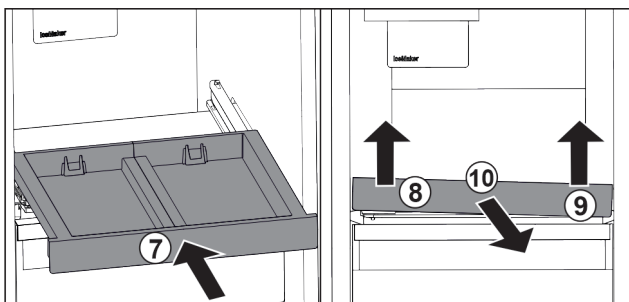

Fig. 97
- ▶ Slide in the pull-out board. Fig. 97 (7)
- ▶ Lift the pull-out board on the front left. Fig. 97 (8)
- ▶ Lift the pull-out board on the front right. Fig. 97 (9)
- ▶ Take out the pull-out board to the front. Fig. 97 (10)